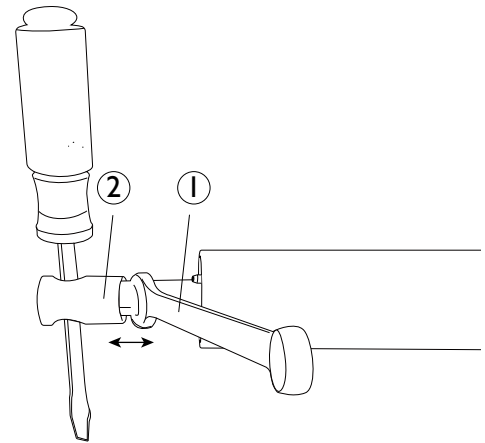

Figure 11. Detaching the pivot cap from the replacement upper cylinder
**1** Using a large screwdriver and a 9/16" wrench (Figure 11, item 1), detach the pivot cap (item 2) from the replacement upper cylinder.